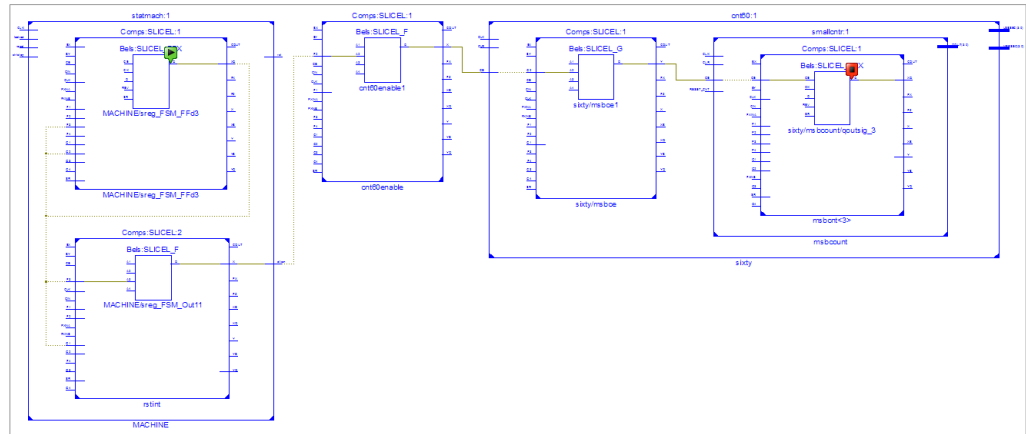

Figure 6-5: Schematic Viewer
- Selecting (1) the Maximum Data Path enables you to visualize the entire data path.
- Selecting (2) a net from the Physical Resource column enables you to visualize just a portion of a data path connected by a selected net.
1. Right-click **Maximum Data Path**, and select **Show in Technology Viewer**. This draws the selected data path in the Schematic Viewer as shown in Figure 6-5.